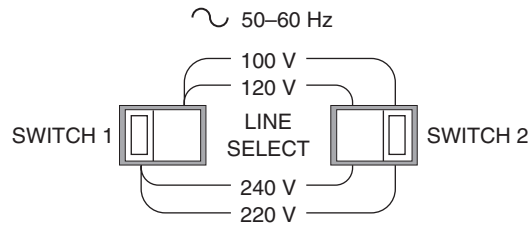

Figure 5 – Rear Panel Power Supply Voltage Switches in Positions with Switch 1 set to Left and Switch 2 set to Right
- i. Configure the Model 2832-C's power supply voltage selection switches to match the nominal local voltage. See Figure 5 and Table 18.